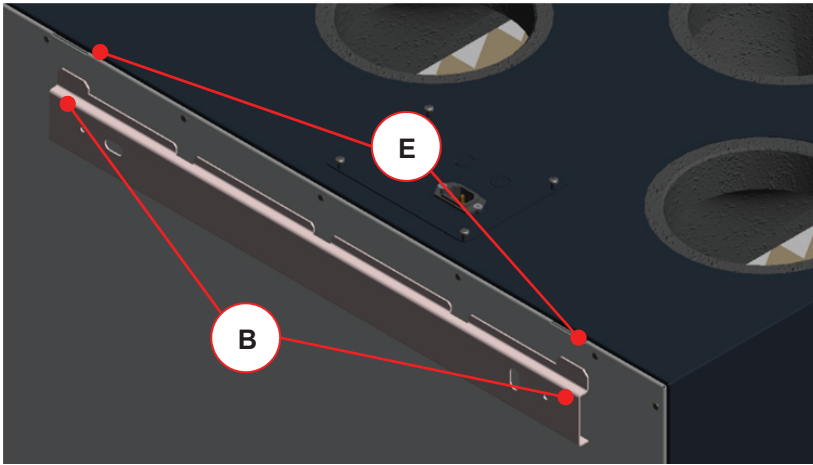

Fig 22: Hanging into the mounting sheet
6. Put the NOVUS on the mounting frame by hooking the tongues in the bottom slot openings of the rear panel. See Fig 22.